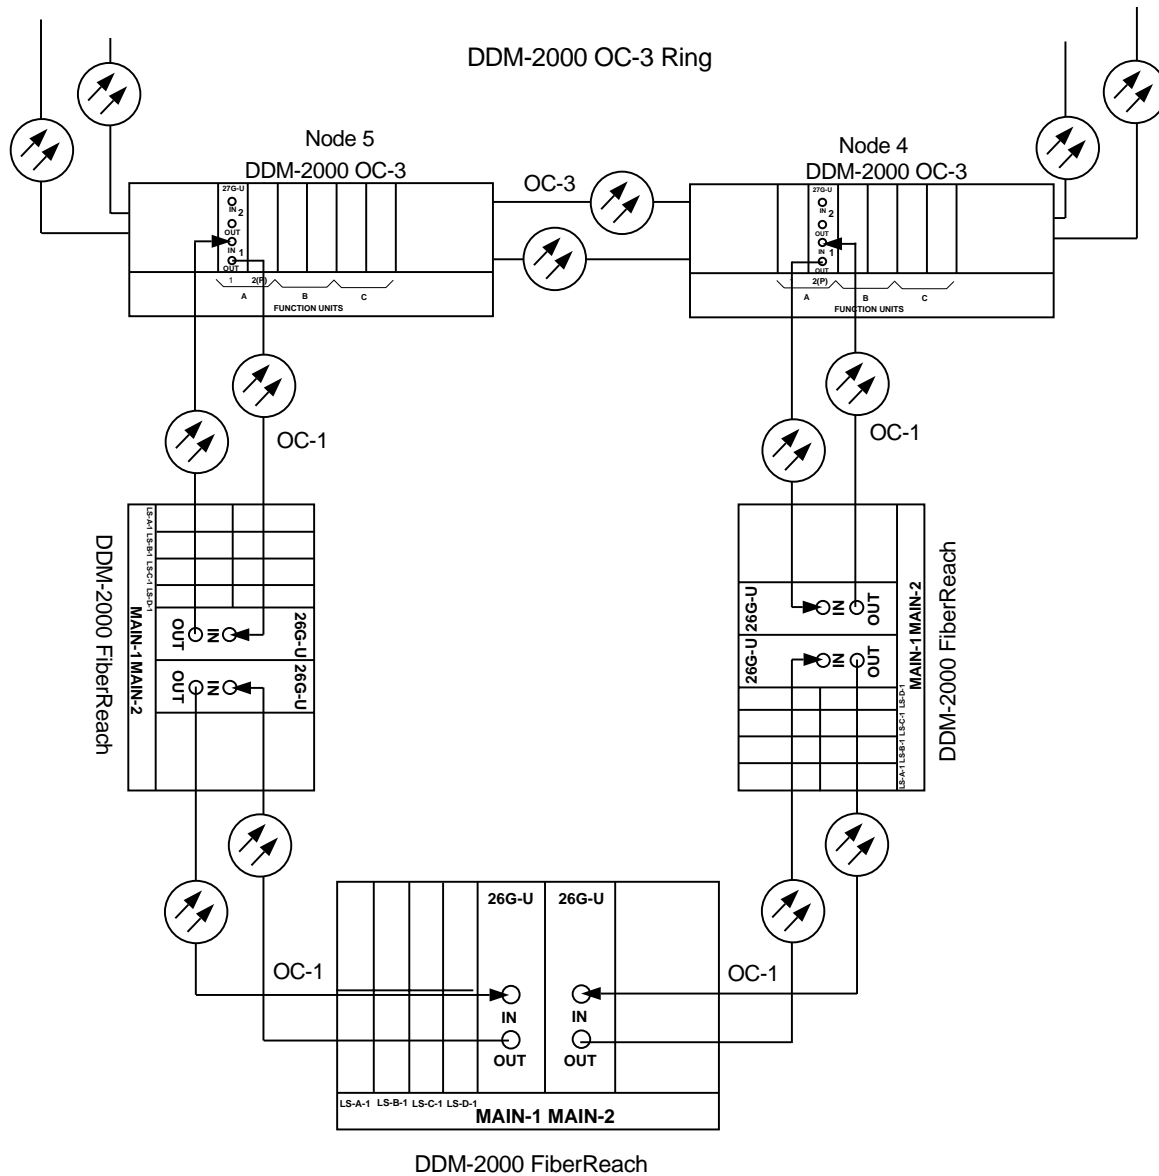

Figure 7 – Example of Dual-Homed OC-1/OC-3 Ring Configuration Connections
A dual-homed ring configuration requires that the first FiberReach **MAIN-1 OLI** connect to **FUNCTION UNITS-()-1 OLI** on one host OC-3 shelf. The last FiberReach **MAIN-2 OLI** connects to the **FUNCTION UNITS-()-2(P) OLI** on the other host OC-3 shelf. Intermediate FiberReach shelves on the same OC-1 ring connect from **MAIN-2 OLI** at one FiberReach shelf to the **MAIN-1 OLI** at an adjacent FiberReach shelf (node). For example, see Figures 7 and 8. This procedure will establish the ring configuration starting from one OC-3 or OC-12 host node (near end) and continuing to an adjacent FiberReach node, then to the next FiberReach node until the final connection is made from the last FiberReach node to the remaining OC-3 or OC-12 host node.
At the near end OC-3 or OC-12 host node, remove the optical loop from the **26G2-U**, **27G-U** or **27G2-U OLIU** OC-1 line (1 or 2) being used for the OC-1 ring configuration (for example, in Figures 7 and 8, OC-3 shelf Node 5, slot **FUNCTION UNITS-A-1**, OC-1 line 1.) At the other end of the optical span being established, remove the optical loop from the associated **OLIU**. (For example, in Figures 7 and 8, FiberReach **MAIN-1 OLIU**.)